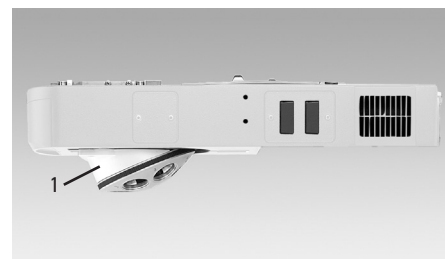

Fig. 33: Stand top Leica DM6 M
Stand top DM6 M, 6x M32, Mot. objective turret, 4x (RL) (Fig. 33 p. 17)
Cover for objective turret (1 Fig. 33 p. 17)